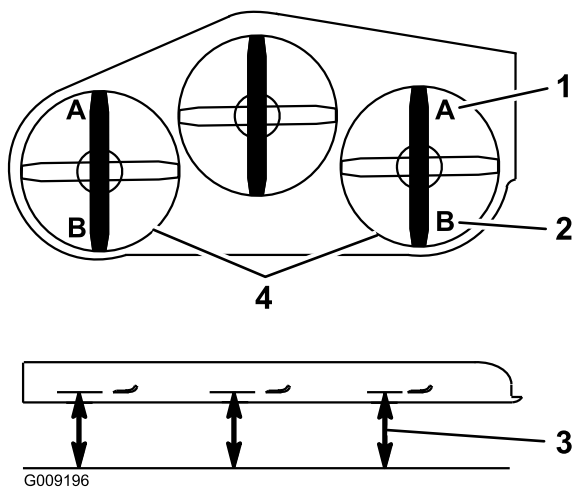

Figure 124
9. On both sides of the deck, measure from the level surface to the front tip of the blade (Position A) as shown in Figure 124.
15. On both sides of the deck, measure from the level surface to the back tip of the blade (position B) as shown in Figure 124.